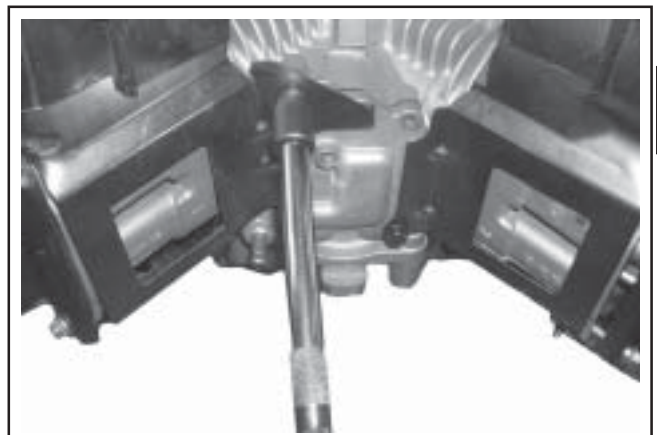

Figure 9-34. Removing Inner Baffles.
2. Remove the inner (valley) baffles. See Figure 9-34.